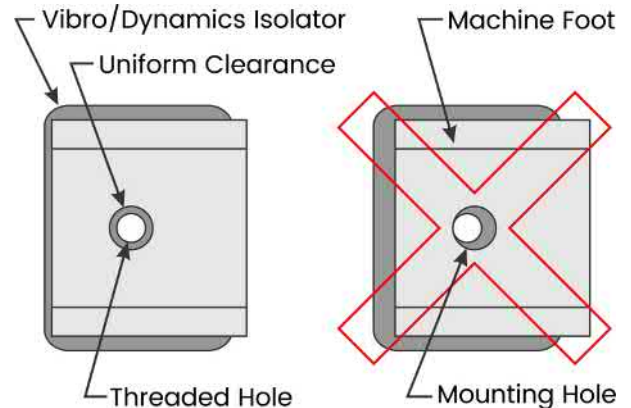

Figure 5
4. For isolators equipped with attachment bolts, position the isolator under the machine foot so the tapped hole in the isolator is concentric with the machine's mounting hole as per Figure 5. (Some isolators may have more than one tapped hole. Use the one that offers the best isolator positioning under the machine foot and the best access to the attachment bolt.)